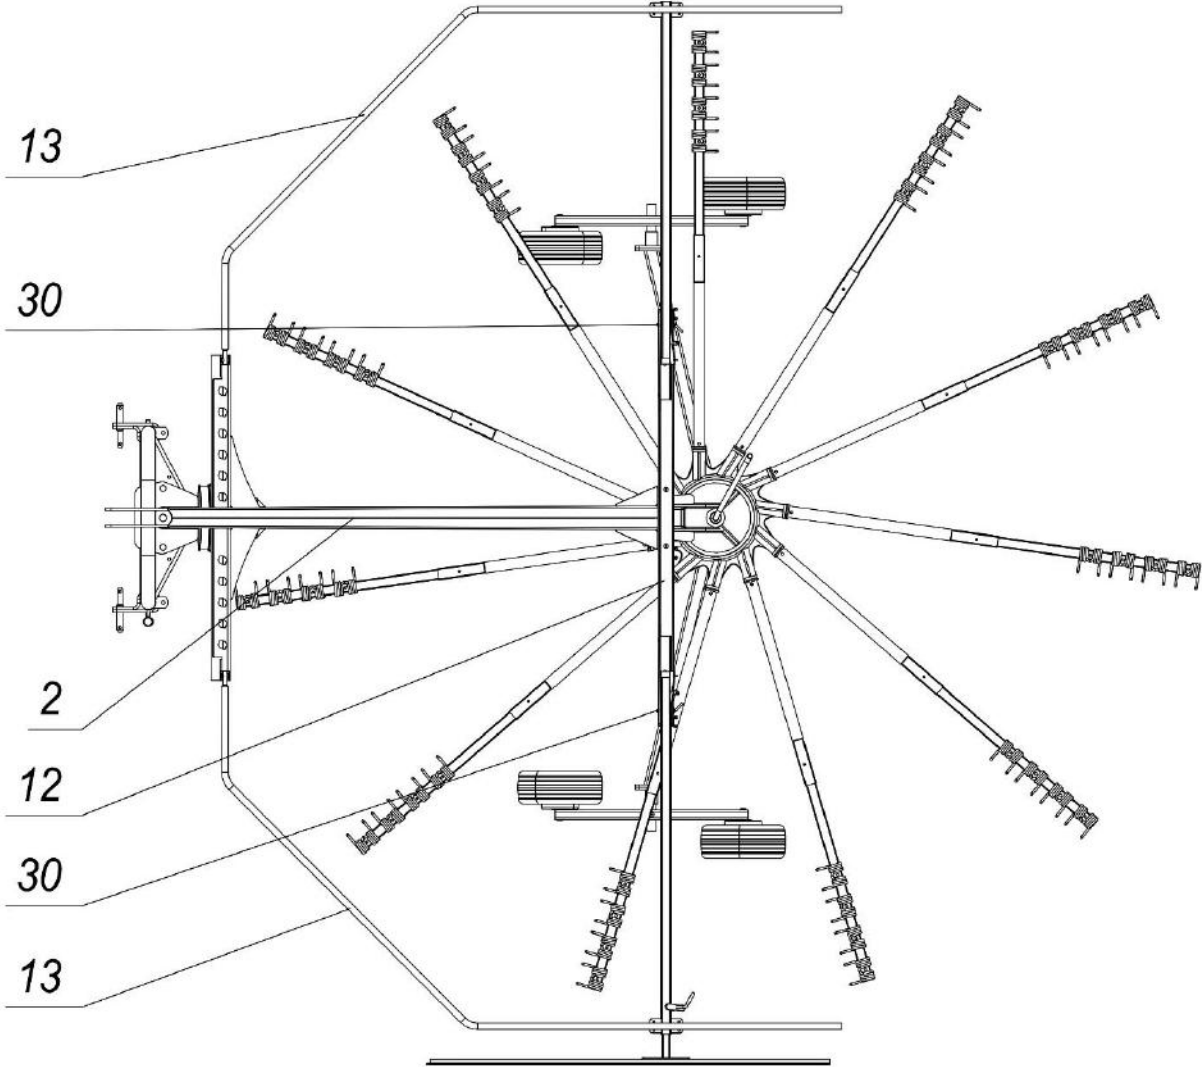
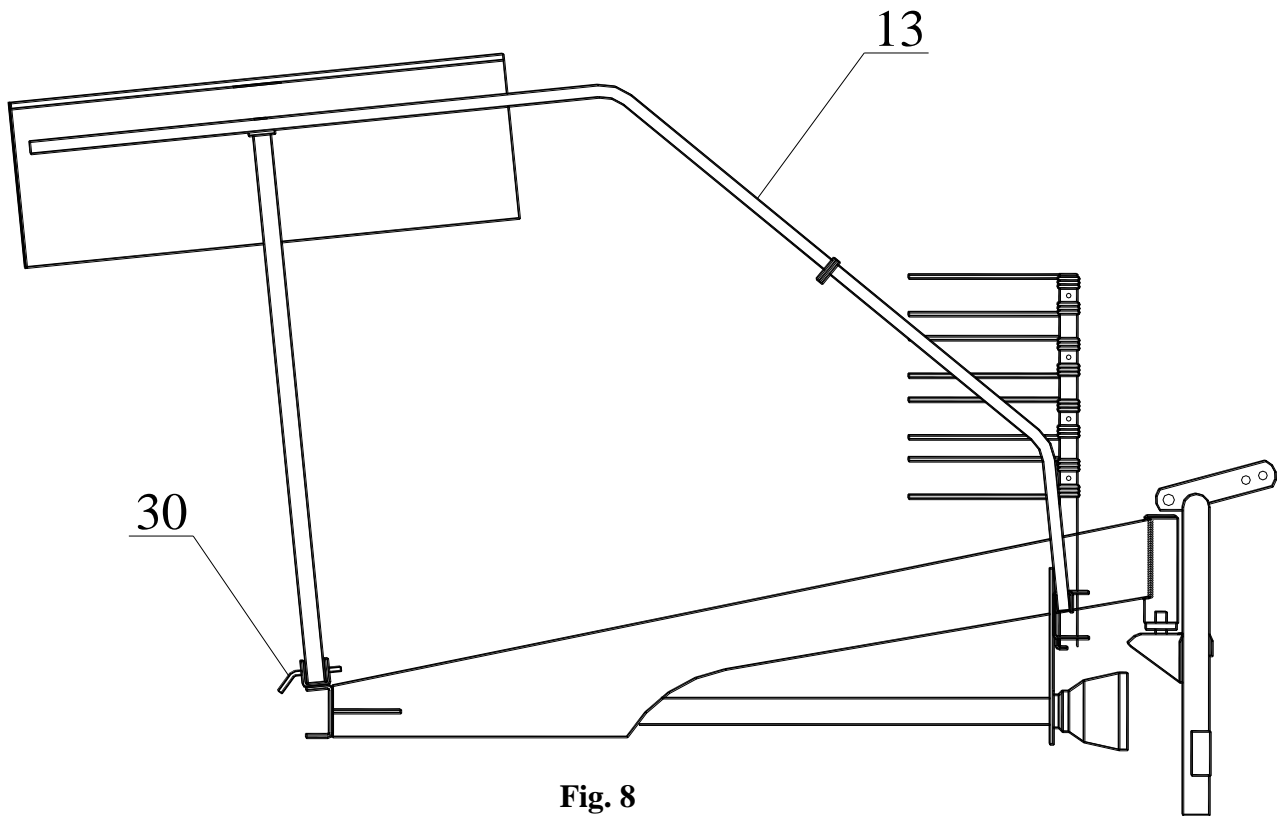

Fig. 7
Fig. 8
After setting the protective yokes to transport or work position, always secure them with securing pin (fig. 7 and fig. 8 - item 30).
3. Set protective yoke 13 as shown in figure 8.
2. Set protective yoke 13 as shown on figure 7.